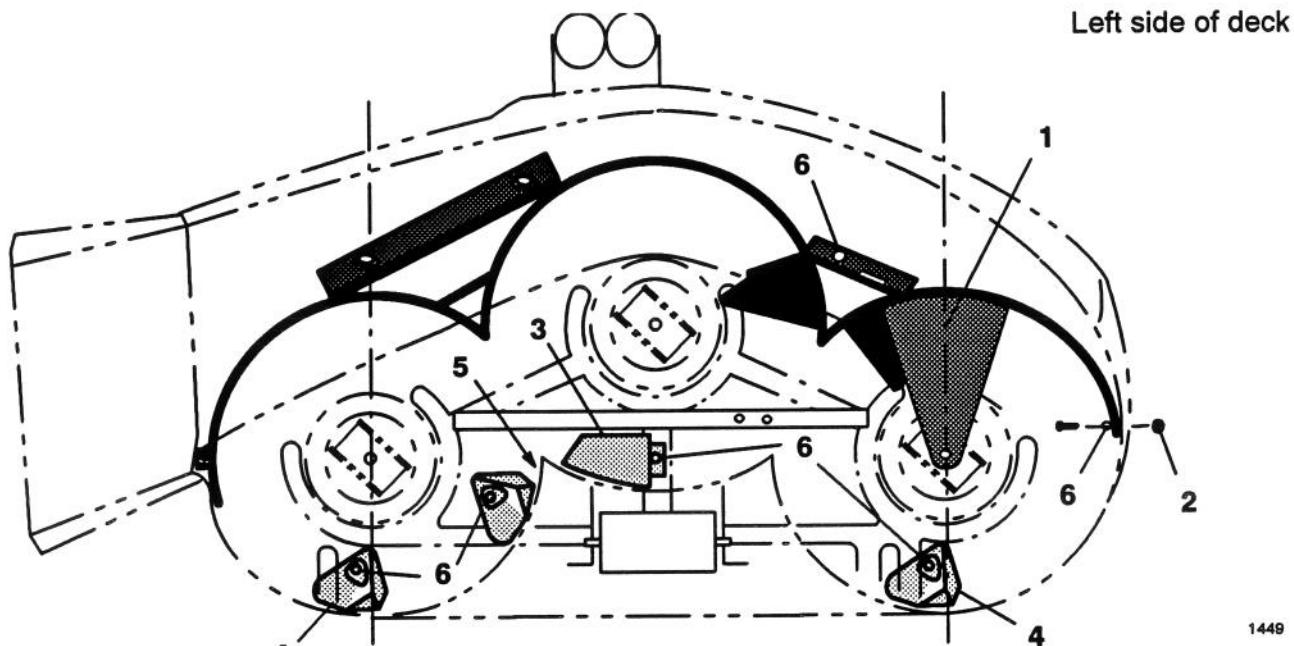

Figure 2
- 9 Move template to left hand spindle (side away from discharge chute). Align template parallel with center line of mower deck and clamp left side of baffle flush with bottom edge of mower deck (Fig. 2).
- 10 Using baffle as a guide, drill (2) 11/32 (.343) inch holes in left side bracket and baffle. Place 5/16-18 x 5/8 inch bolts through from outside of deck at bracket and from inside deck at baffle. Secure with lock nuts.
- 12 Place kicker plate into center chamber so tab is in recessed area against rear deck baffle (Fig. 2).
- 13 Place two (2) kickers into deck on raised area, not in depressions, on outer chamber center lines (Fig. 2).
- 14 Place third kicker 1 inch from left/center joint of deck baffle (Fig. 2).
- 16 Remove kickers and plate, drill (4) 11/32 (.343) inch holes in deck. Secure kickers with 5/16-18 x 1 inch bolts and lock nuts on inside of deck.